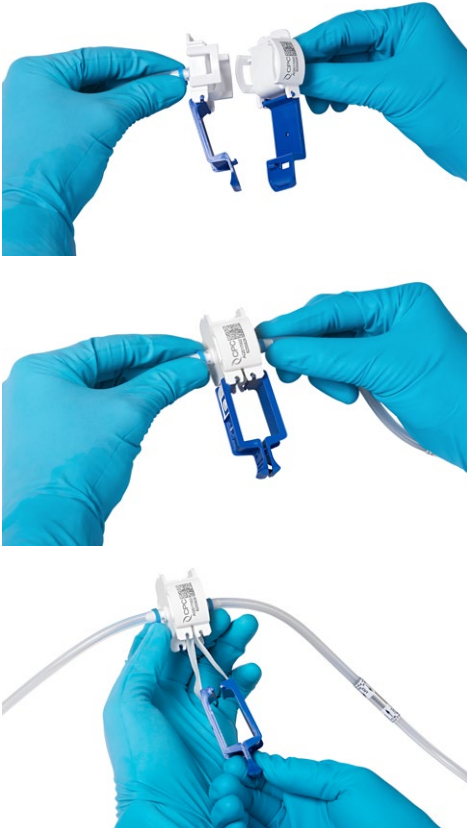

Figure 19: Aseptic connection between media container outlet and Mycap® CCX flask
1. Aseptically connect one end of transfer assembly to the donating flask outlet and the other end to one leg of the “Y” assembly on the Mycap® CCX Flask (see Figure 19)